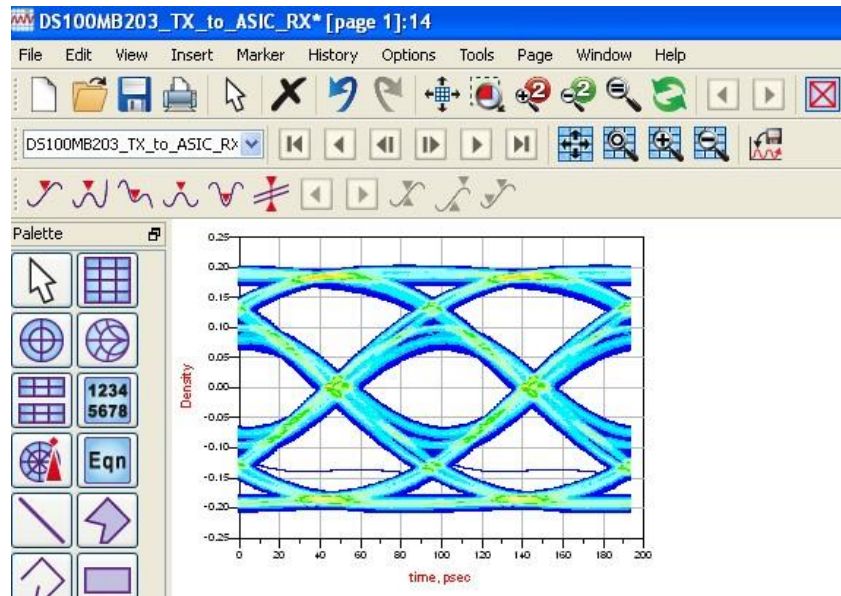

Figure 6: Example eye plot for DS100MB203 TX to ASIC RX input
12. Once the simulation completes, plot the eye (a.k.a. Density). Figure 6 shows an example eye plot at the output of the channel. The quality of the eye generated in this second simulation will be affected by: